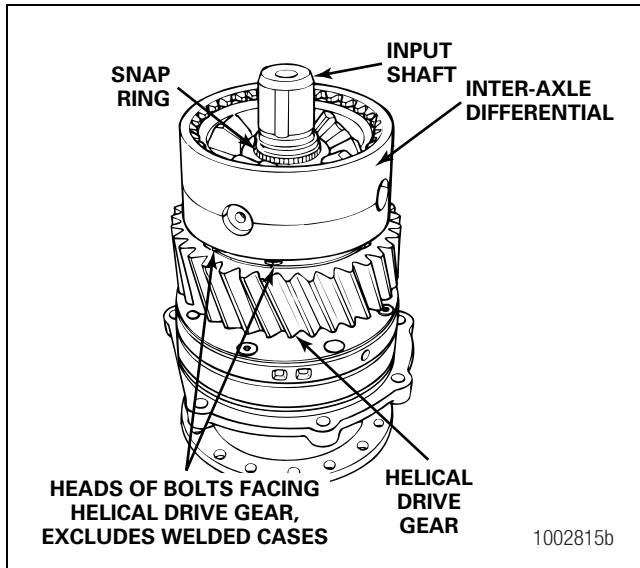

Figure 5.75
11. Install the inter-axle differential to the input shaft so that the teeth in the differential case are away from the helical drive gear. Install the snap ring that fastens the case to the shaft. Figure 5.75.